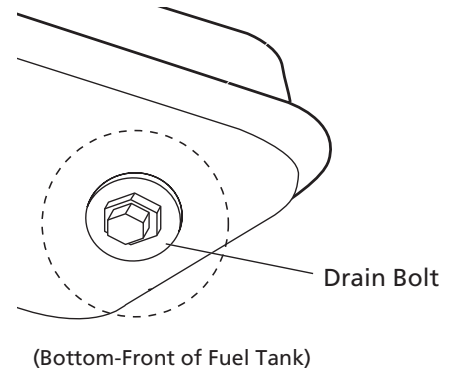

Figure 9 – Drain Bolt Removal
1. Remove drain bolt from rear bottom-front side of fuel tank by unscrewing drain bolt from drain. See Figure 9.